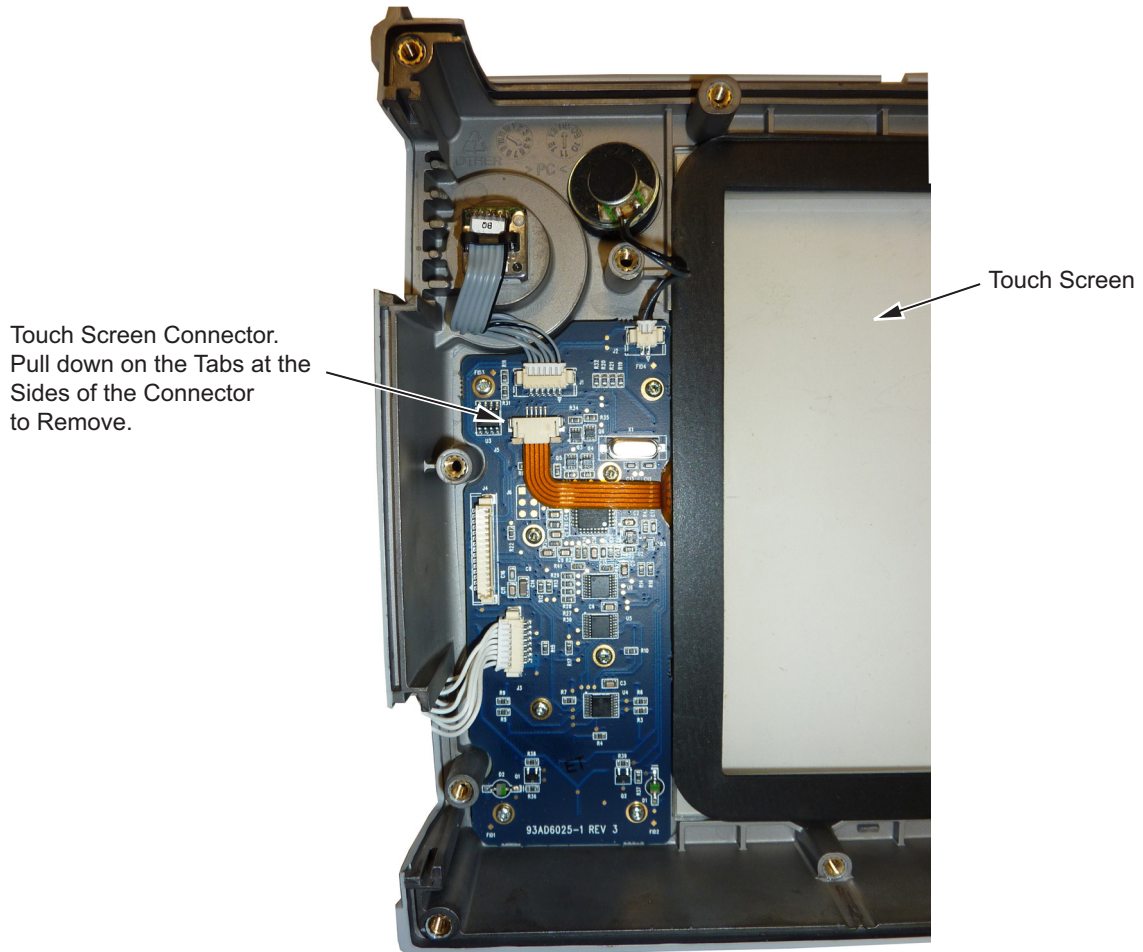

Figure 6-28. Replacing the Touch Screen
4. Remove the touch screen flex circuit connector from the Keypad PCB by pulling the tabs on each side of the connector away from the connector and in the direction of the flex circuit. Refer to Figure 6-28.